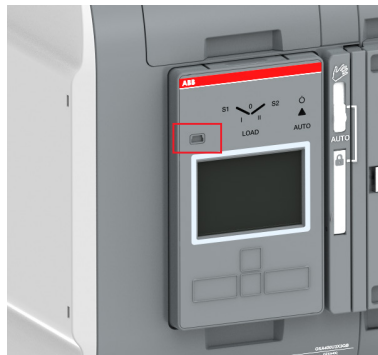

Fig. 5.6 Programming port (USB port) is situated in the front of the HMI, on left side
The Ekip bluetooth module draws its power from a rechargeable lithium-polymer battery supplied with the unit. It is connected directly to the programming port (see Fig. 5.6) powers the controller without the need for auxiliary voltage supply. The programming port is only compatible for use with Ekip Bluetooth and Ekip Programming -modules.
The Ekip Programming -module is suitable to use with all ZTG(D) 30-1200 A, 200-480 Vac automatic transfer switches. You can connect the module via the programming port, see Fig. 5.6. The programming port is only compatible for use with Ekip Programming and Ekip Bluetooth -modules.
The Ekip Programming -module draws its power from the PC and connects one side directly to the programming port (see Fig. 5.6) and on the other to the USB port of the PC with the cable supplied.